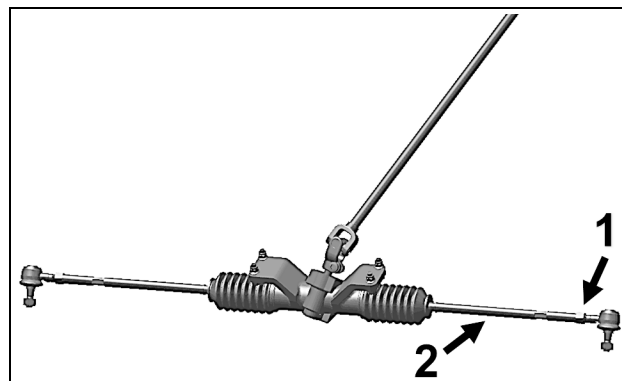

Figure 22
To adjust the SxS's steering system, first loosen coupling rod nut (1), then screw or unscrew the coupling rod (2) an equal number of revolutions on both sides of the vehicle. See Figure 22.